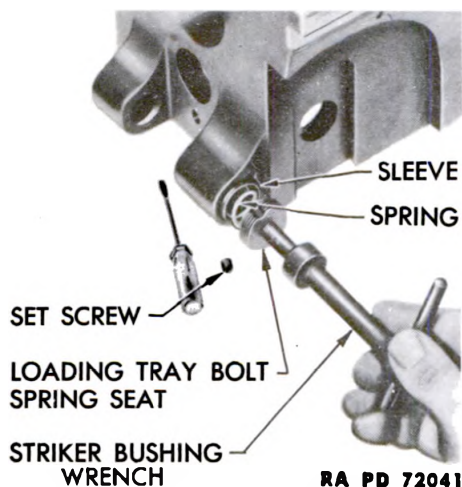

Figure 149 – Loading Tray Bolt Spring – Disassembled
d. **Loading Tray Bolt Spring.** Remove the headless set screw from the edge of the loading tray bolt spring seat (fig. 149). Unscrew the seat, using the striker bushing wrench. Remove the loading tray bolt spring and sleeve. Replace damaged parts with new ones and install.